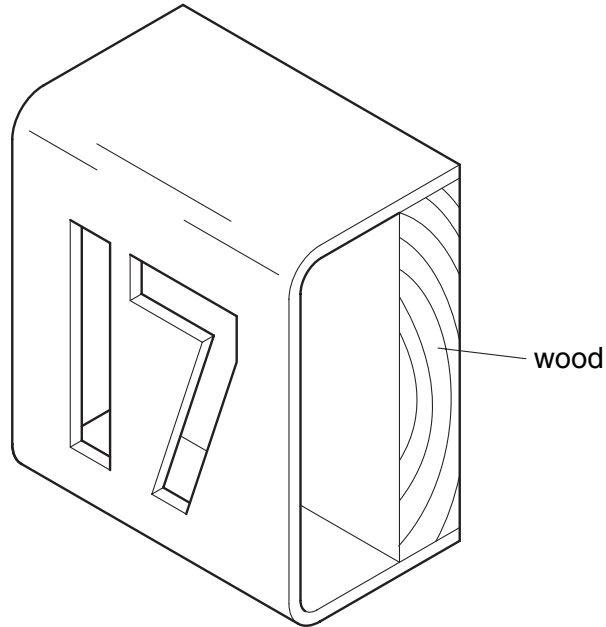

Fig. 1
- 1 Fig. 1 shows a house number which is to be made in a school workshop.